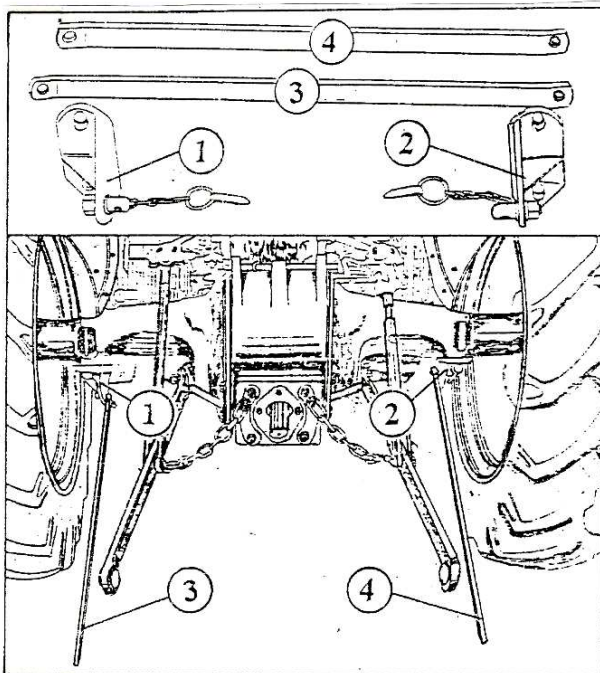
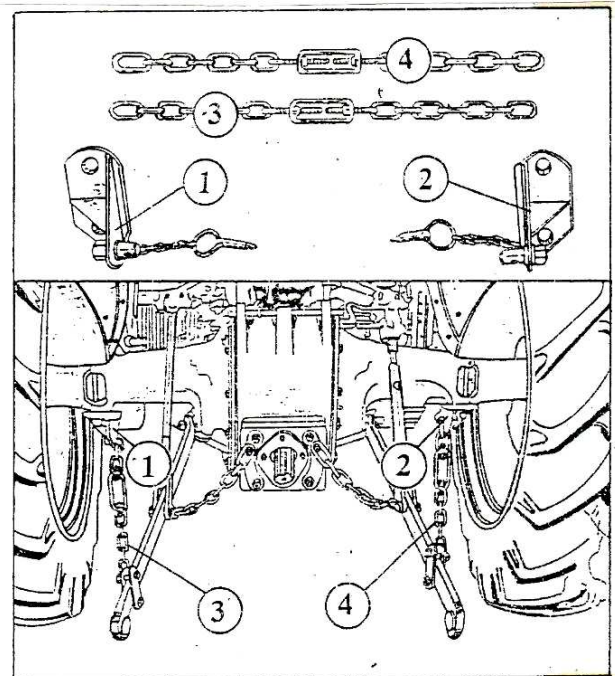

Figure 2 — Mounting the stabiliser links
Figure 3 — Mounting the stabiliser chains
2. When operating the mower, always use stabiliser links (Fig. 2) and stabiliser chains (Fig. 3). To attach the stabiliser links to the tractor, proceed as follows (see Fig. 2).
- a) Attach the left stabiliser link bracket (Fig. 2, pos. 1) under the housing of the rear left tractor half-axis, and right under the housing of the rear right tractor half-axis (Fig. 2, pos. 2) by screwing it in.
3. If your tractor is equipped with stabiliser chains, follow the assembly method shown in Fig. 3; assembly sequence matches the sequence for stabiliser link (see under 2)